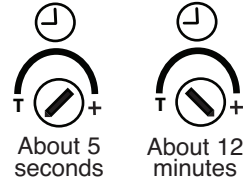

Fig. 6
1. Turn the knob clockwise to increase the amount of time (Fig. 6).